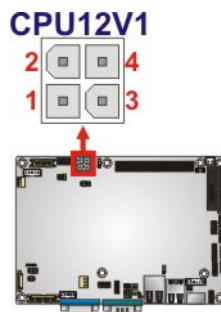

Figure 3-17: CPU 12V Power Connector Location
- CN Location:** See **Figure 3-17**